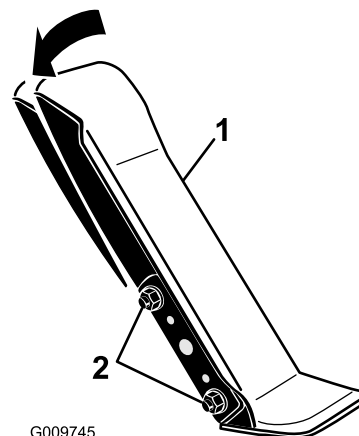

Figure 87
1. Loosen the 2 nuts and bolts securing the left side of the traction pedal to the bracket (Figure 87).
2. Pivot the pedal to the desired operating angle and tighten the nuts (Figure 87).